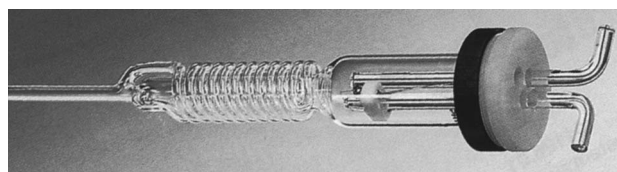

Fig. 2: Calorimeter insert with the lid screwed on
- Press the lid against the flange of the calorimeter insert and screw the tightening ring tightly onto the thread of the lid for a completely sealed attachment (see Fig. 2).